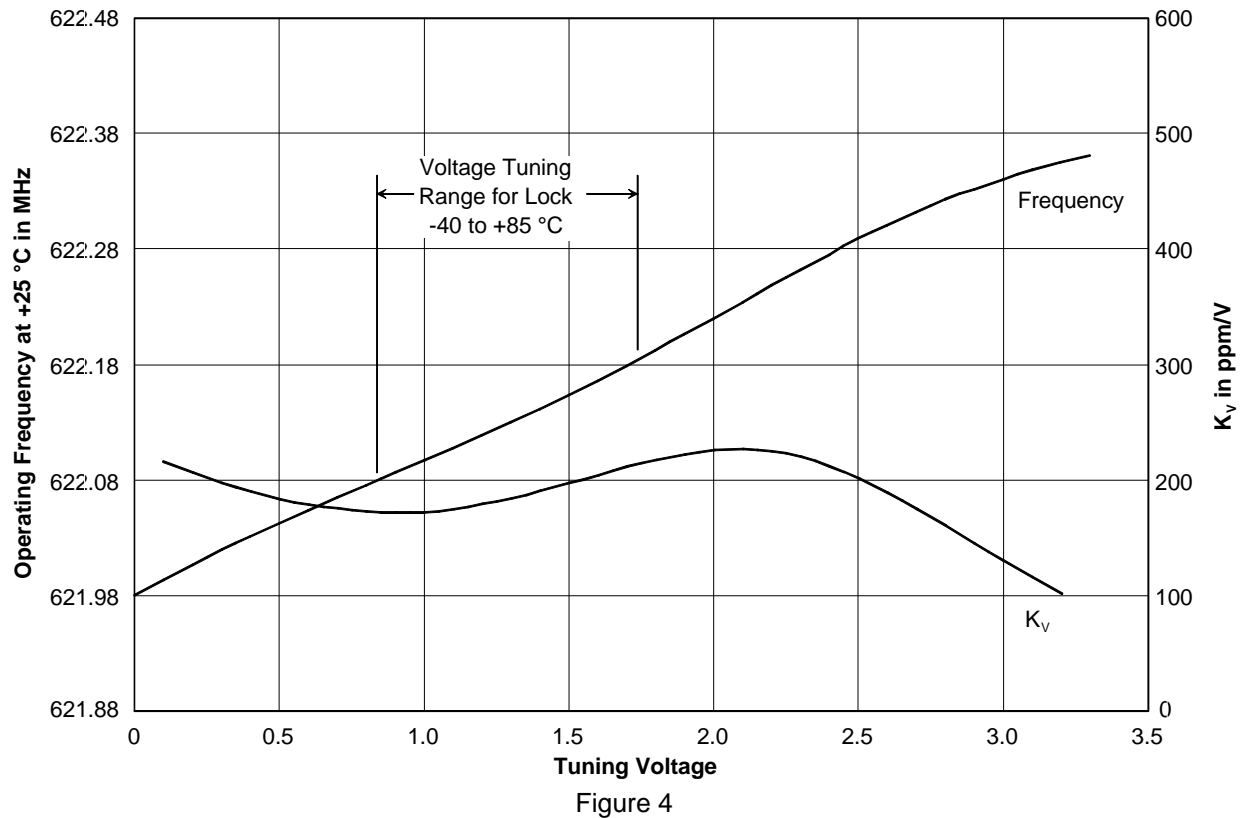

Figure 4
8. See Figure 4.
Controlled Tuning Characteristics - the OP4005B voltage tuning constant, K_V , is bounded between 140 and 300 ppm/V under locked conditions for reference signals with ± 100 ppm or better stability over the OP4005B's full operating temperature and supply voltage range. This allows a PLL based on the OP4005B to be designed with a well-controlled loop bandwidth and damping factor, avoiding problems such as jitter peaking, etc. The voltage tuning characteristic of the OP4005B is monotonic from 0 to 3.3 V, supporting reliable acquisition of phase lock. Figure 4 shows typical OP4005B tuning characteristics.
The frequency tuning of the OP4005B is characterized over a voltage range of 0 to 3.3 V. The tuning voltage applied to the OP4005B should be limited to this range. Figure 4 shows the typical locked tuning range for operation over -40 or $+85$ °C. The frequency shift of a quartz SAW frequency control device with temperature has the shape of an inverted parabola, with the highest frequency occurring around $+25$ °C. At both -40 and $+85$ °C, there will be a 170 ppm downward shift in the frequency of the SAW device compared to $+25$ °C. Tuning to compensate for this temperature shift is the same as tuning 170 ppm higher at $+25$ °C. This is well within the tuning range of the OP4005B, as shown in Figure 4. Note that the voltage tuning constant, K_V , is bounded between 140 and 300 ppm/V under locked conditions for any temperature within the OP4005B's specified operating range.